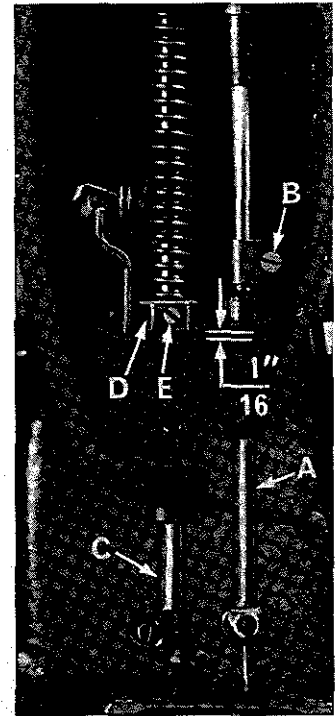
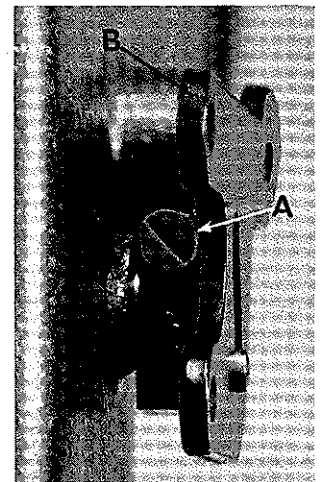

Fig. 4
Fig. 12
Align the needle bar (A, Fig. 4) and set to height, using the proper test pins and test plate of the right gauge. See chart below:
If test plate and test pins are not available, insert a new set of needles (Type and Size as required) and align the needle bar so that the needles correspond with the vertical face of the needle guard. To turn needle bar, loosen needle bar clamp screw (B, Fig. 4) and turn bar as required. Tighten clamp screw.
with the looper point flush with the left side of the left needle. If adjustment is necessary, loosen screw (B, Fig. 4) and move needle bar (A) up or down as required and retighten screw. Care should be taken not to disturb the alignment of the needle bar when moving the needle bar either up or down.
If adjustment is needed, loosen tension release lever screw (A, Fig. 12), located at the back of the machine and move tension disc separator as required. Retighten screw. After adjustment there should be no binding at any point.
The height of the presser bar (C, Fig. 4) is set correctly if it is possible to remove the presser foot when the foot lifter lever (B, Fig. 12) is fully depressed. Also there should be approximately  $1/16$  inch clearance between lower surface of the presser bar connection and guide (D, Fig. 4) and the bottom surface of head opening in the bed when the foot lifter lever is released and the presser foot resting on the throat plate, with the feed dog down below the throat plate.